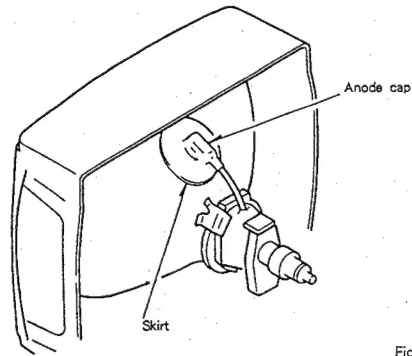

Fig. 6
- (10) Hold the skirt of the anode cap slightly to improve the close contact between the cap and CRT.
- (11) Check that the anode cap is in close contact with the CRT. (See Figure 6)